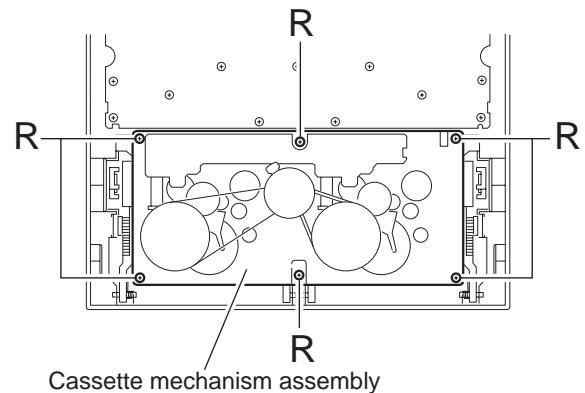

Fig.30
3.1.9 Removing the cassette mechanism assembly (See Fig.30)